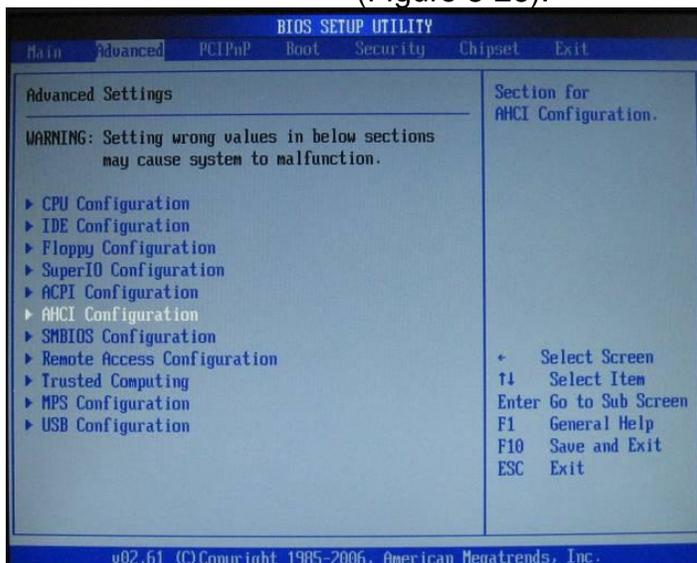

Figure 8-26 ACHI Configuration Page
16. On **Advanced Settings** screen Scroll down to **ACHI Configuration**, Press **Enter**. (Figure 8-26).